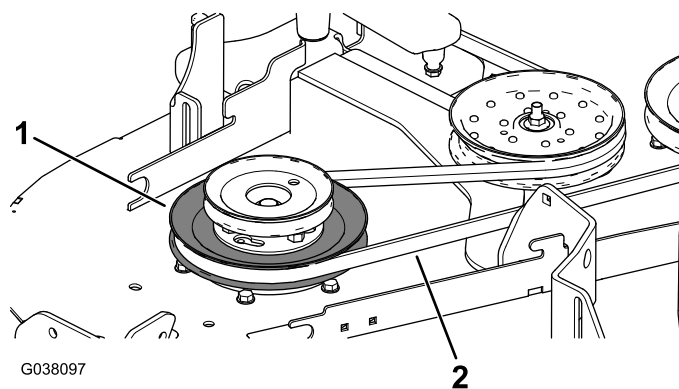

Figure 30
6. Install the mower belt around the lower pulley of the double pulley (Figure 30).